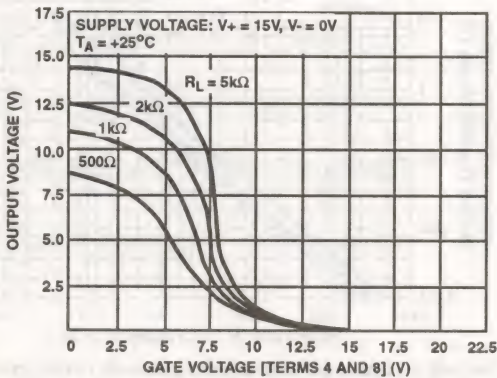
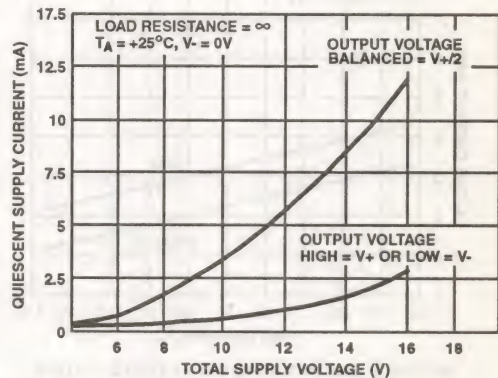
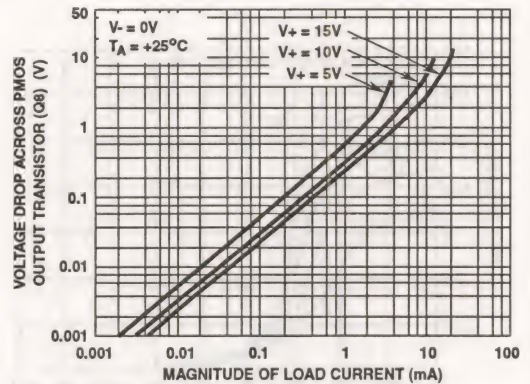

FIGURE 3. VOLTAGE TRANSFER CHARACTERISTICS OF CMOS OUTPUT STAGE
FIGURE 4. QUIESCENT SUPPLY CURRENT vs SUPPLY VOLTAGE
FIGURE 10. VOLTAGE ACROSS PMOS OUTPUT TRANSISTOR (Q8) vs LOAD CURRENT
The output stage consists of a drain loaded inverting amplifier using CMOS transistors operating in the Class A mode. When operating into very high resistance load, the output can be swung within mV of either supply rail. Because the output stage is a drain loaded amplifier, its gain is dependent upon the load impedance. The transfer characteristics of the output stage for a load returned to the negative supply rail are shown in Figure 3. Typical op amp loads are readily driven by the output stage. Because large signal excursions are nonlinear, requiring feedback for good waveform reproduction, transient delays may be encountered. As a voltage follower, the amplifier can achieve 0.01 percent accuracy levels, including the negative supply rail.
**Single supply operation:** Initially, let it be assumed that the value of  $R_L$  is very high (or disconnected), and that the input terminal bias (Terms. 2 and 3) is such that the output terminal (No. 6) voltage is at  $V+2$ , i.e., the voltage drops across Q8 and Q12 are of equal magnitude. Figure 4 shows typical quiescent supply current vs. supply voltage for the CA5130 operated under these conditions. Since the output stage is operating as a Class A amplifier, the supply current will remain constant under dynamic operating conditions as long as the transistors are operated in the linear portion of their voltage transfer characteristics (see Figure 3). If either Q8 or Q12 are swung out of their
linear regions toward cutoff (a nonlinear region), there will be a corresponding reduction in supply current. In the extreme case, e.g., with Term. 8 swung down to ground potential (or tied to ground), NMOS transistor Q12 is completely cut off and the supply current to series connected transistors Q8, Q12 goes essentially to zero. The two preceding stages in the CA5130, however, continue to draw modest supply current (see the lower curve in Figure 4) even though the output stage is strobed off. Figure 15A shows a dual supply arrangement for the output stage that can also be strobed off, assuming  $R_L = \infty$ , by pulling the potential of Term. 8 down to that of Term. 4.
Let it now be assumed that a load resistance of nominal value (e.g.,  $2k\Omega$ ) is connected between Term. 6 and ground in the circuit of Figure 15B. Let it further be assumed again that the input terminal bias (Terms. 2 and 3) is such that the output terminal (No. 6) voltage is at  $V+2$ . Since PMOS transistor Q8 must now supply quiescent current to both  $R_L$  and transistor Q12, it should be apparent that under these conditions the supply current must increase as an inverse function of the  $R_L$  magnitude. Figure 10 shows the voltage drop across PMOS transistor Q8 as a function of load current at several supply voltages. Figure 3 shows the voltage transfer characteristics of the output stage for several values of load resistance.